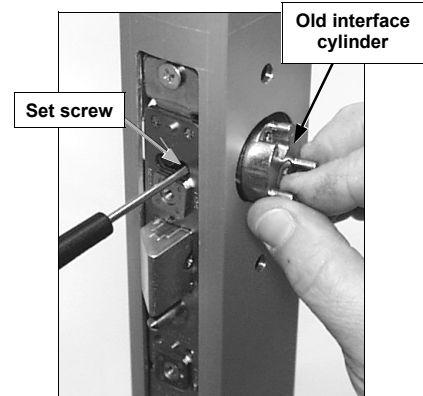

Fig. 6: Loosen set screw before removing the old interface cylinder (if present)
5. Loosen the set screw, then remove the outside cylinder (if present--See Fig. 6).